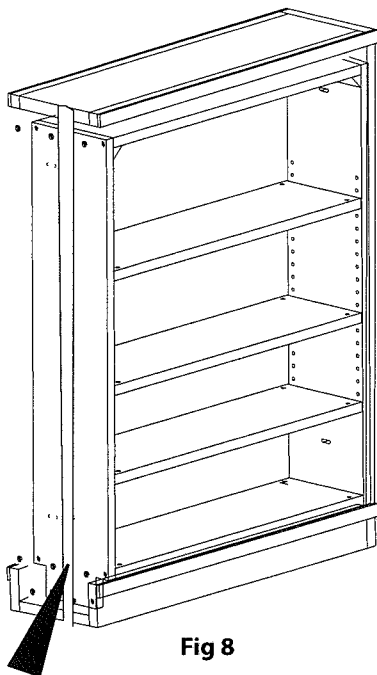

Fig 8
Step 7. Remove front mounting strap. See Fig 8.